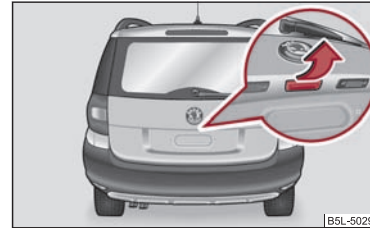

Fig. 28 Handle of boot lid
- Press on the handle ⇒ fig. 28 and at the same time raise the boot lid.